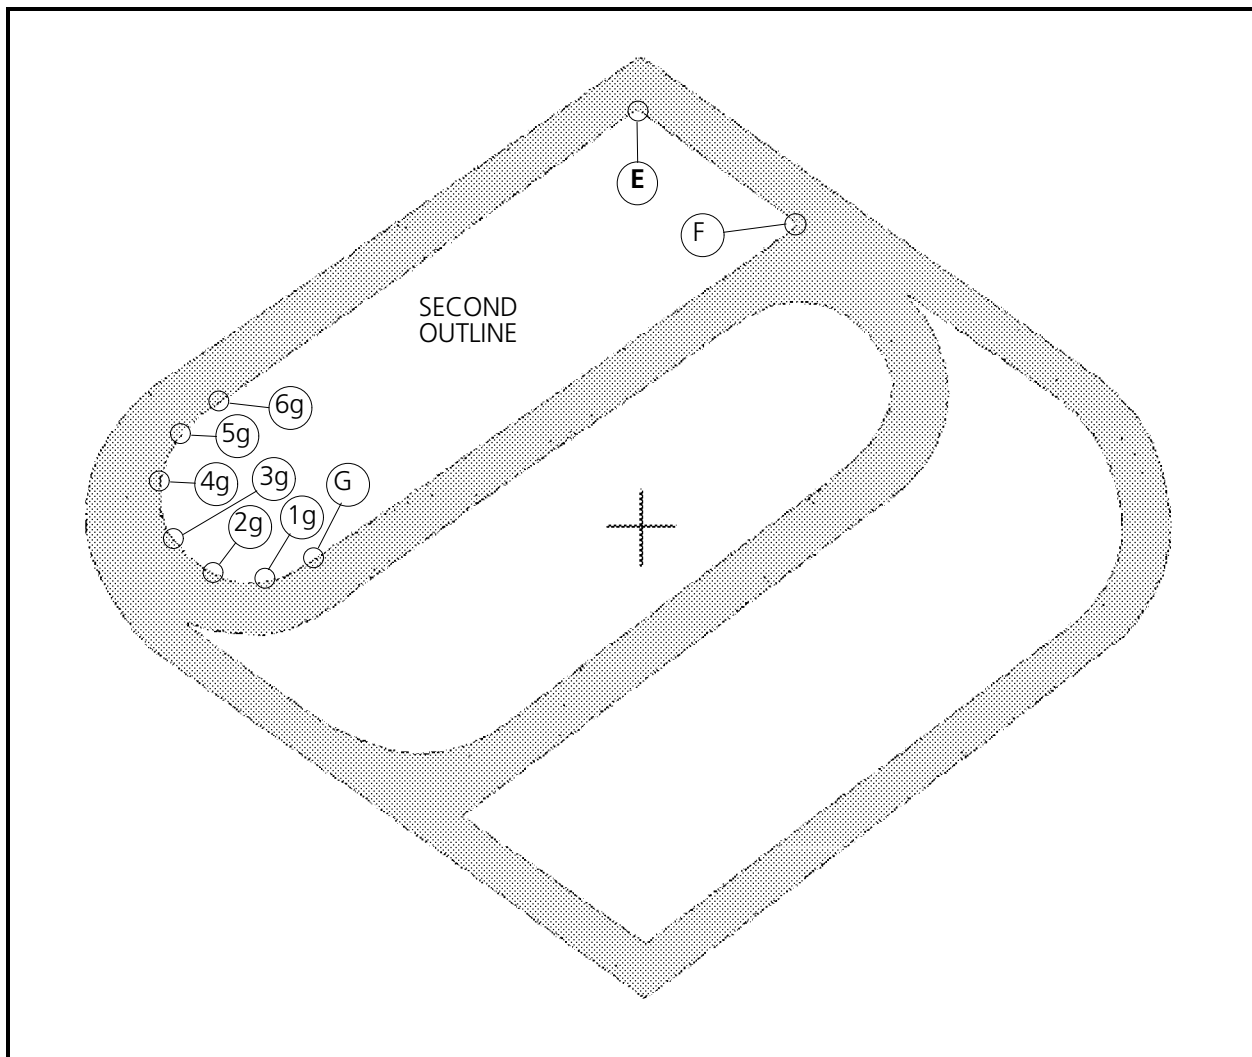

Figure 6-82
1. Enter a Mk1 at point E in Figure 6-82. This is the upper corner point of the top section of the Saurer logo.